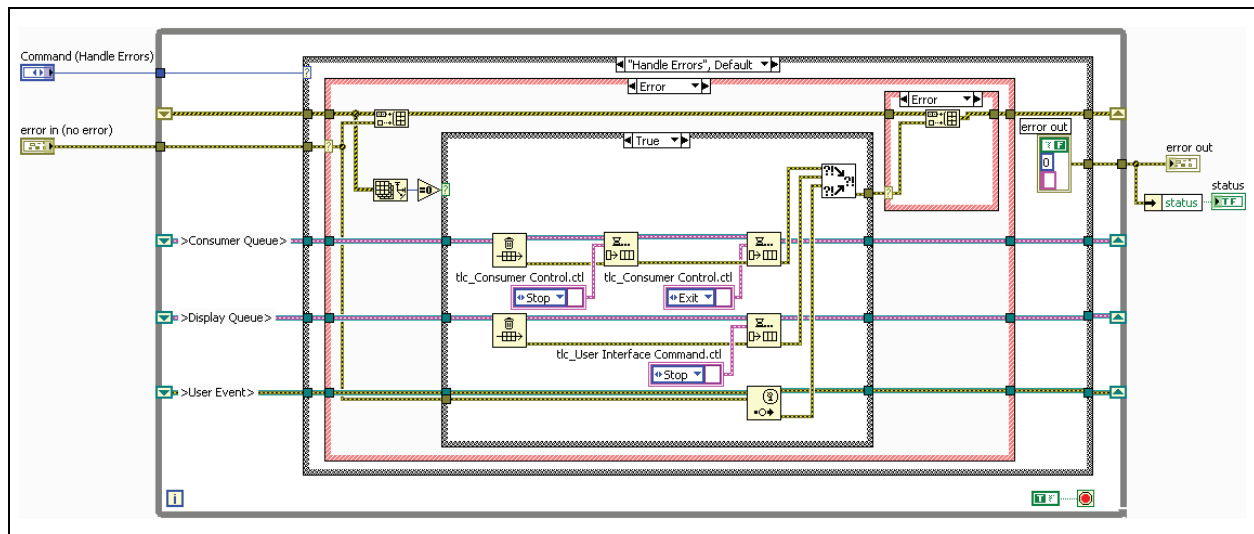

Figure 6-15. Error Handler Error Case
4. Modify the block diagram to stop the producer, consumer, and display loops if an error occurs. Use the following items to complete the case where the structures are set to Handle Errors, Error, and True, as shown in Figure 6-15.